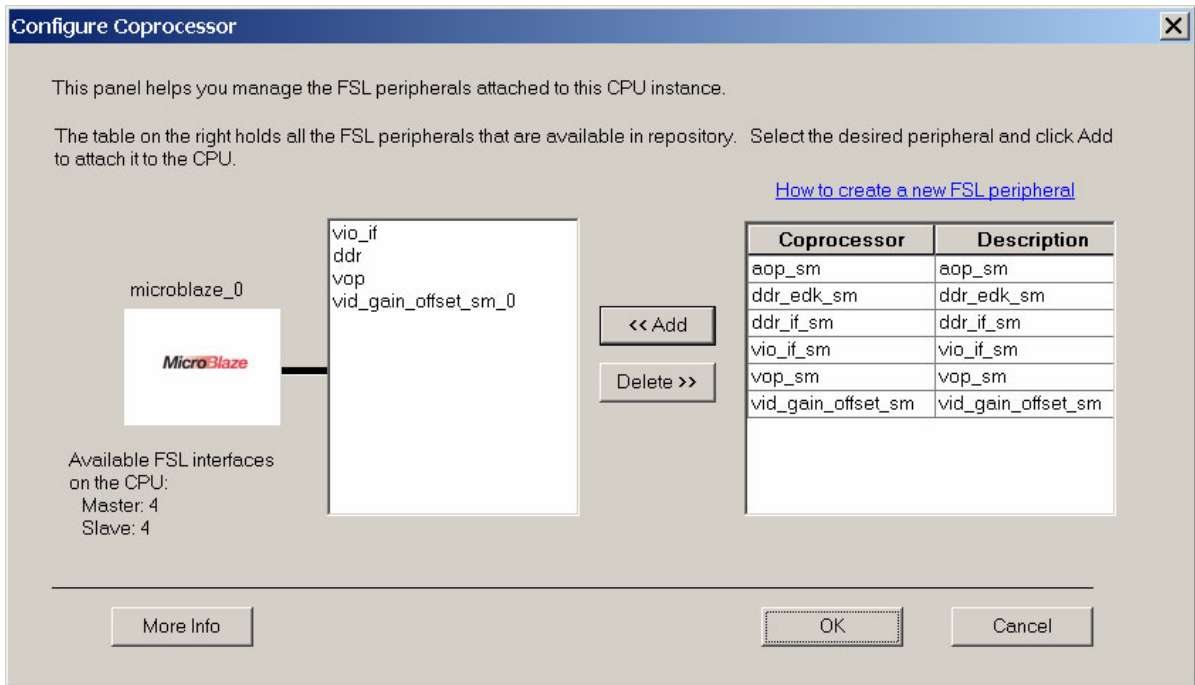

Figure 6-9: Configure Coprocessor Panel
- Select vid_gain_offset_sm and add the pcore to the project as shown in Figure 6-9.